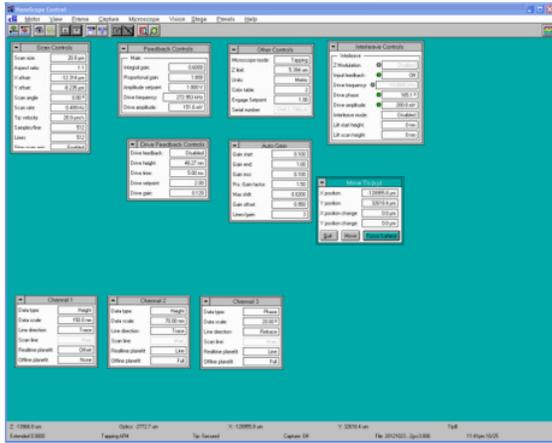
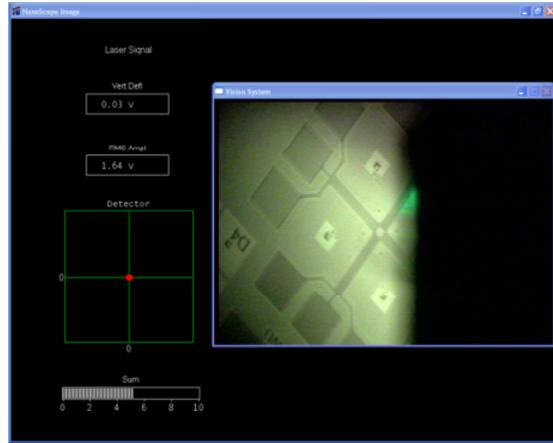

Figure 2: *Real Time Control Monitor*, which is typically on the left screen.
Figure 3: *Display Monitor*, which is typically on the right screen. The smaller window on the screen shows the Vision System image of the microscope.
8. The left screen should now show the *Real Time Control Monitor* (see Figure 2), and the right screen should show the *Display Monitor* (see Figure 3). The red diode on the AFM scanner head, which indicates the active laser, should glow.